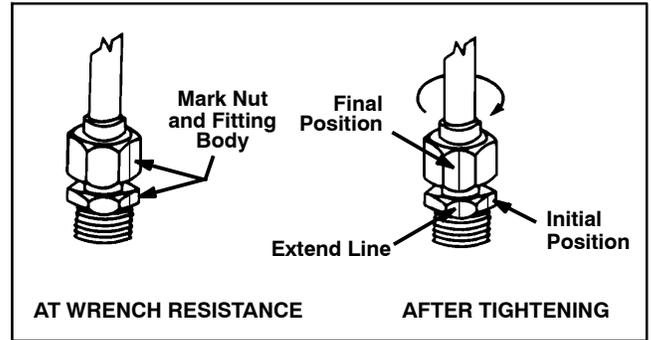

Figure 8
5. If a torque wrench is not available or if space at the swivel nut prevents use of a torque wrench, an alternate method of assembly is the Flats From Wrench Resistance (F.F.W.R.) method (Fig. 8).